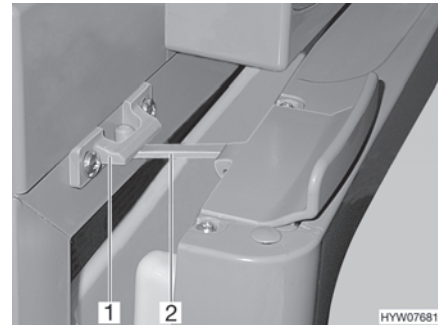

Fig. 139 Refrigerator door in ventilation position (Thetford)
- Open the lock (Fig. 139,2) and snap it into the locking catch (Fig. 139,1). The refrigerator door will then stay slightly open.